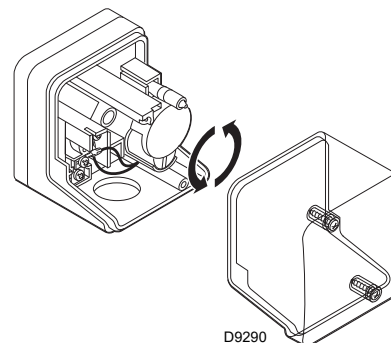

Fig. 30
- Adjust the minimum gas pressure (Fig. 30) switch to the start of the scale.
Adjust the minimum gas pressure switch (Fig. 30) after having performed all the other burner adjustments with the pressure switch set at the start of the scale.